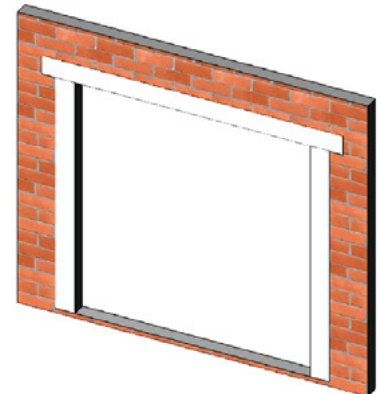

Figure 18:
3. Finally, at the head, embed the flashing into the sealant on the mounting flange and fasten into place. The flashing paper should be cut sufficiently long enough to extend past the flashing paper at each jamb by at least 3 inches (Figure 18).